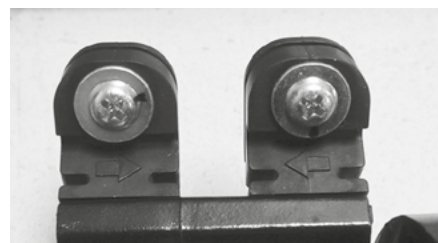

Figure 13 - Water pump gasket boot orientation
- 25 Remove the four (4) gasket boots with screws from the old water pump by sliding them out of the brackets. Note orientation of gasket boots for proper installation to new water pump. See Figure 13.
- 29 Dip the ends of the four (4) gasket boots in water and slide them into the brackets on the new water pump. The water will help gaskets slide smoothly into brackets. Directional arrows on gasket boots must be pointing inward toward one another. See Figure 13.